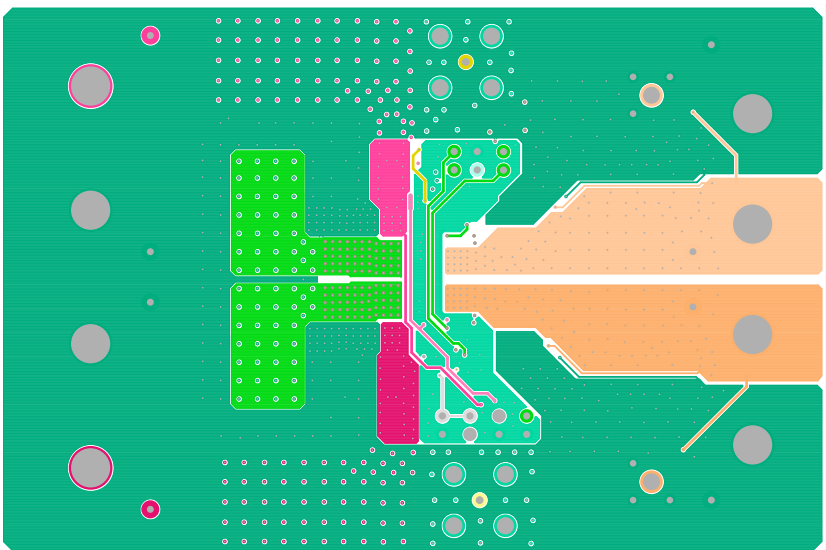

FIGURE 7. LAYER 2
2. Phase 1 and Phase 2 pads are switching nodes that generate switching noise. Keep these pads under the module. For noise-sensitive applications, it is recommended to keep phase pads only on the top and inner layers of the PCB; do not place phase pads exposed to the outside on the bottom layer of the PCB. To improve the thermal performance, the phase pads can be extended in the inner layer, as shown in Phase 1 and Phase 2 pads on layer 2 (Figure 7) for this dual 20A evaluation board. Make sure that layer 1 and layer 3 have the GND layers to cover the extended areas of phase pads at layer 2 to avoid noise coupling.